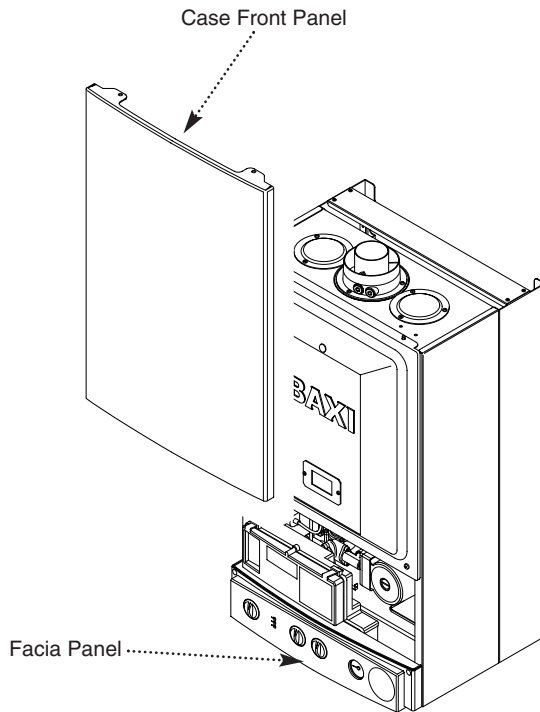

Fig. 45
1. Hinge the facia panel upwards and refit the case front panel. Secure them with the screws previously removed (Fig. 45).